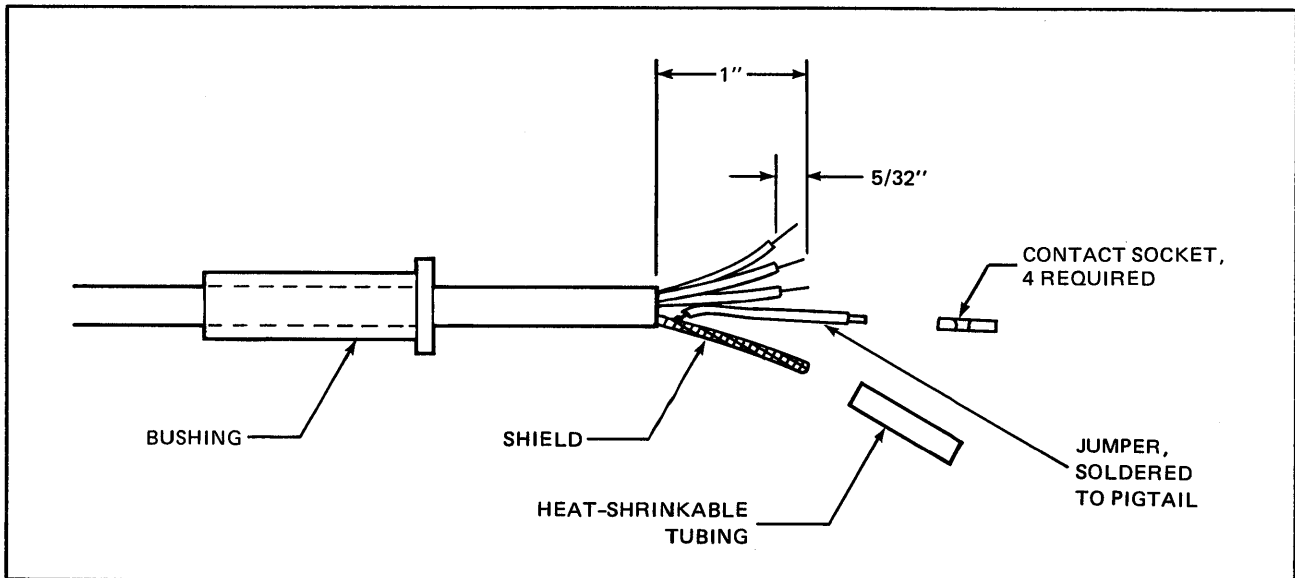

Figure D-10. RS-232-C, 25-Pin, Cable Preparation Details
1. Prepare the second end of the cable as shown in Figure D-10.